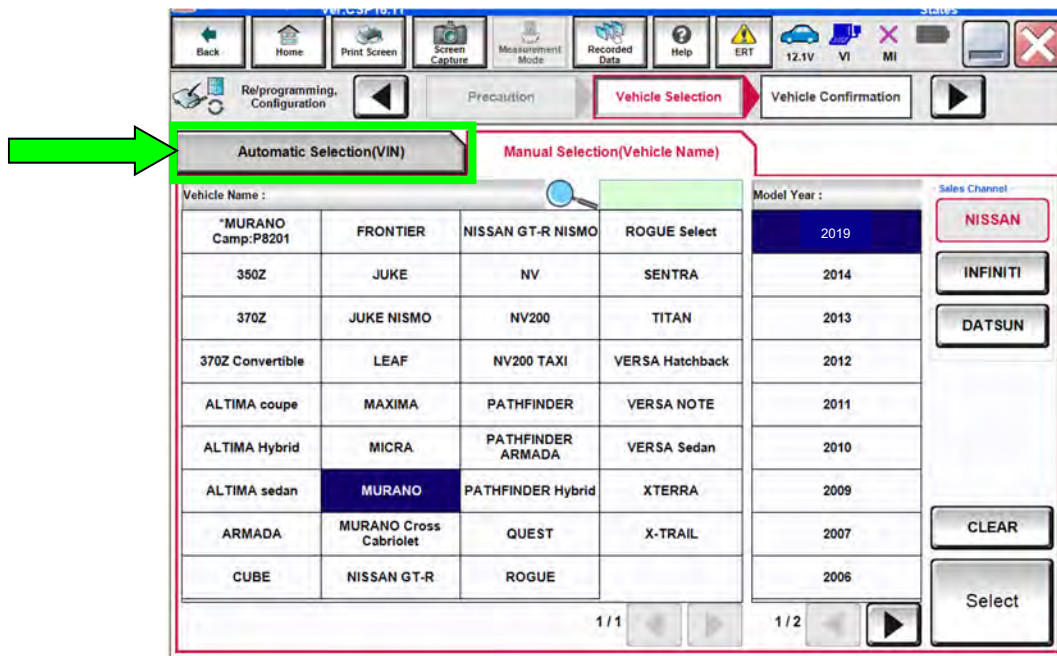

Figure 27
38. If the screen in Figure 27 appears, select **Automatic Selection(VIN)**.